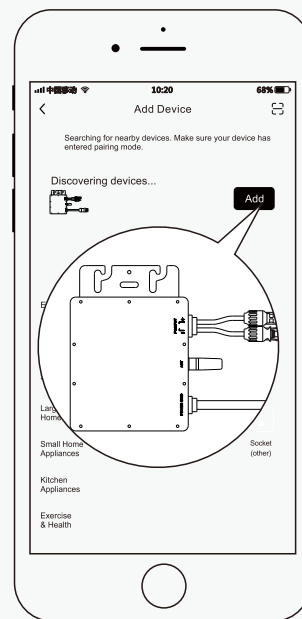

Figure 2
Step 2. When the device appears on the search page, click "Add", as shown in Figure 2